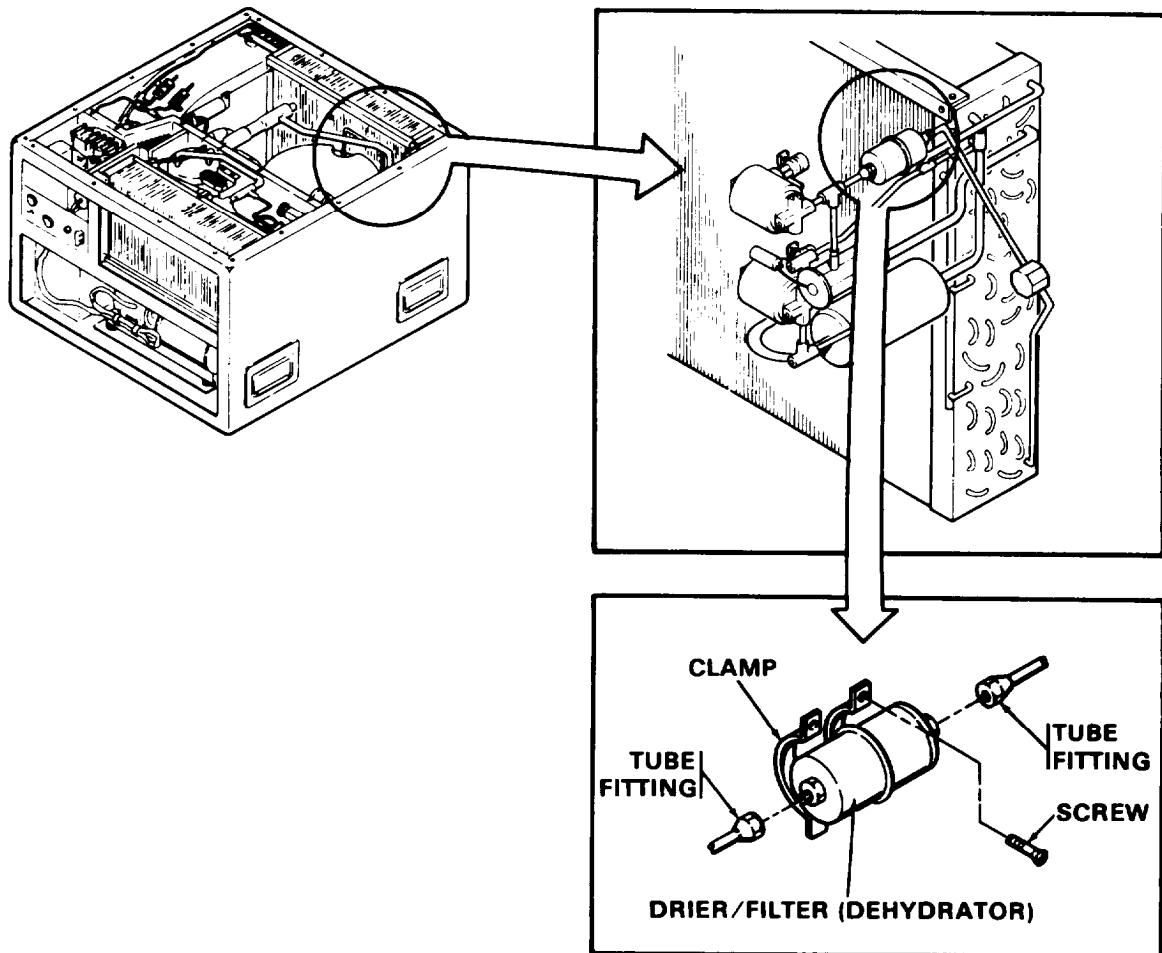

Figure 5-4. Dehydrator
- (1) Refer to figure 5-4 and install dehydrator into refrigeration lines.